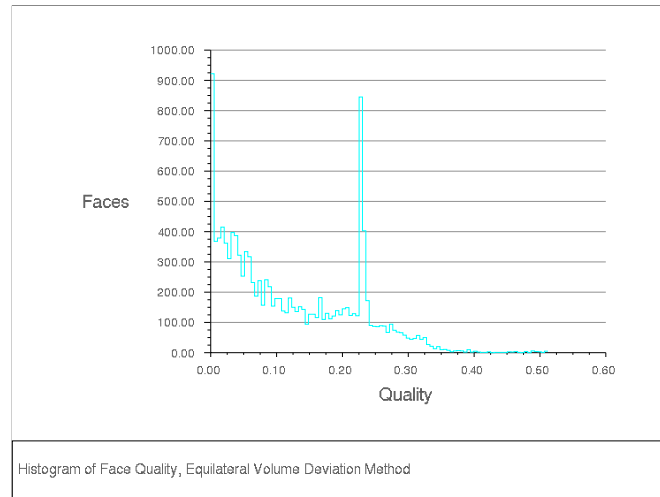

Figure 3.3: Boundary Mesh Skewness Distribution
3. Click **Plot** (Figure 3.3).